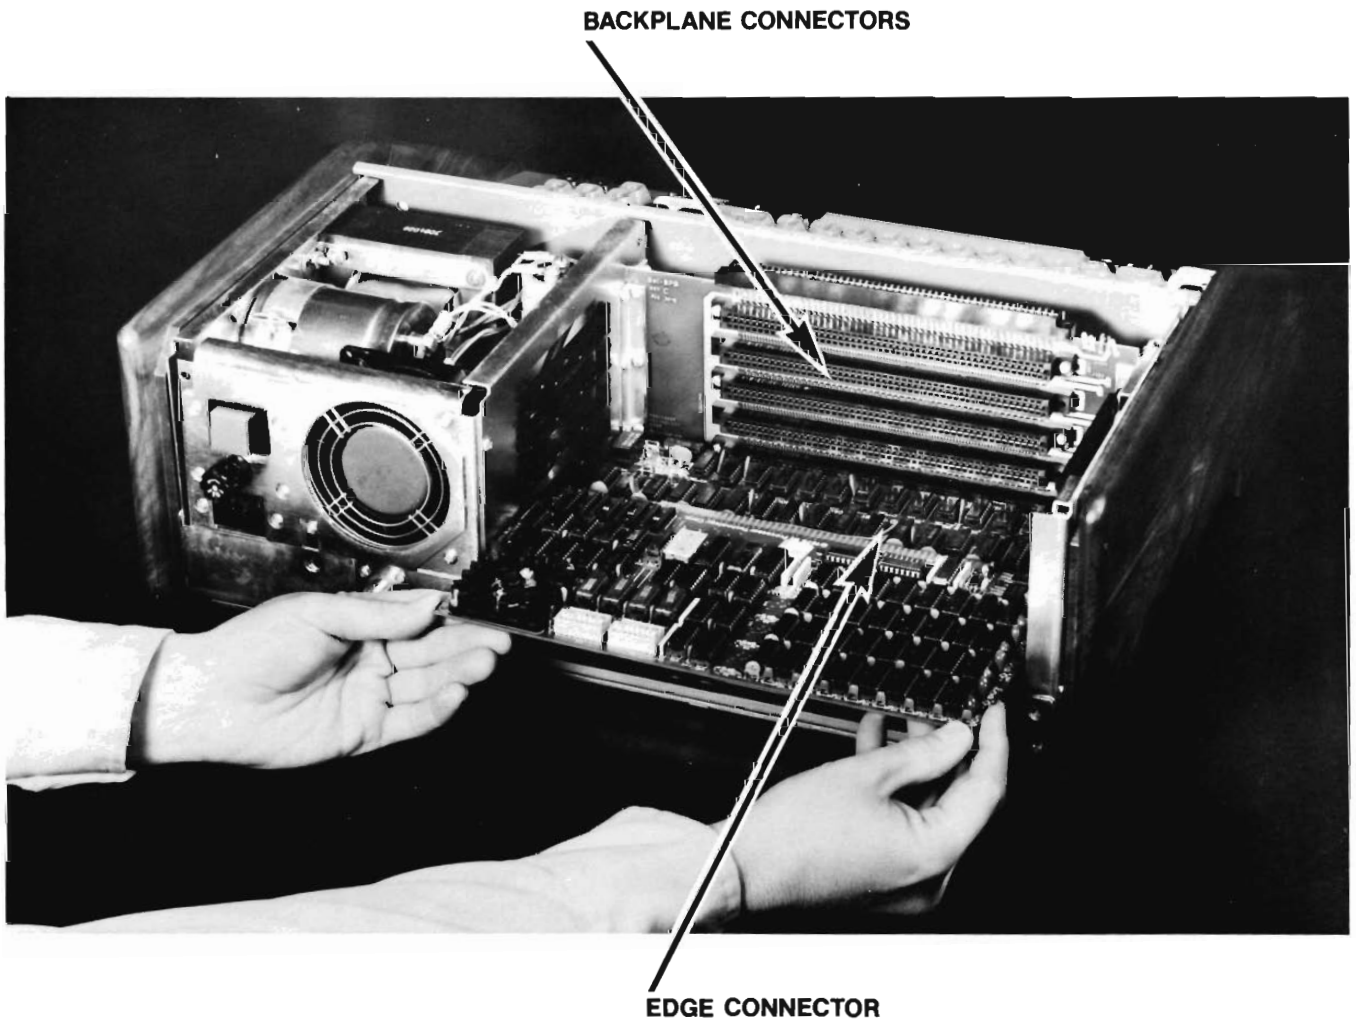

Fig. 6-1. Installing An S-100 Module
(Refer to Fig. 6-1, "Installing An S-100 Module.")
- 8) With the component side up, insert the edge connector side of module in the card guides. (Refer to Fig. 6-1, "Installing An S-100 Module.")